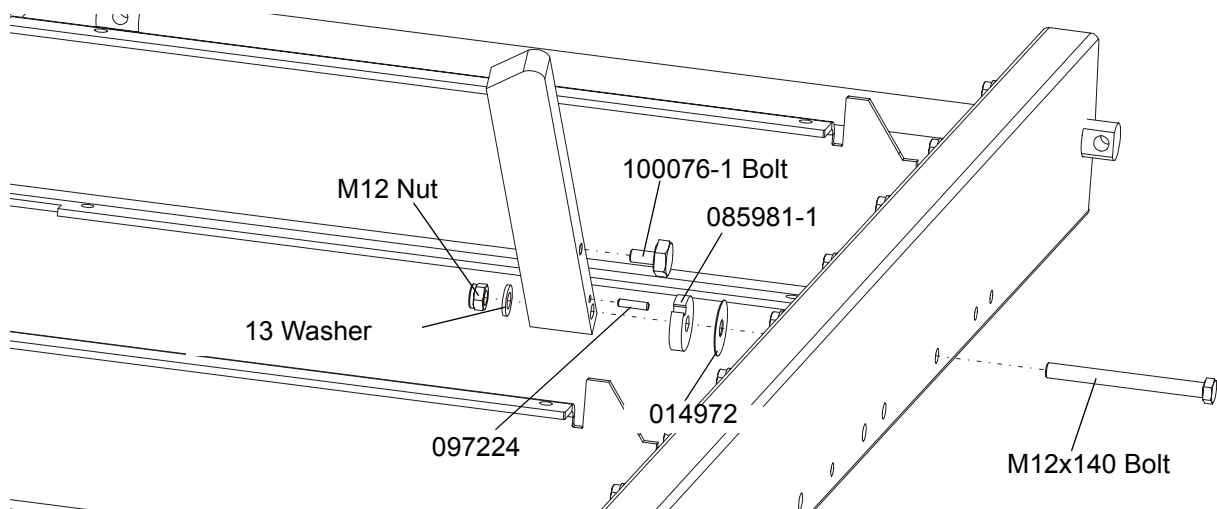

FIG. 2-8
8. Install the log side supports as shown in Figure 2-8. Tighten the nuts so that the side supports can be moved with little resistance. See Section 6.11.
See Figure 2-8.